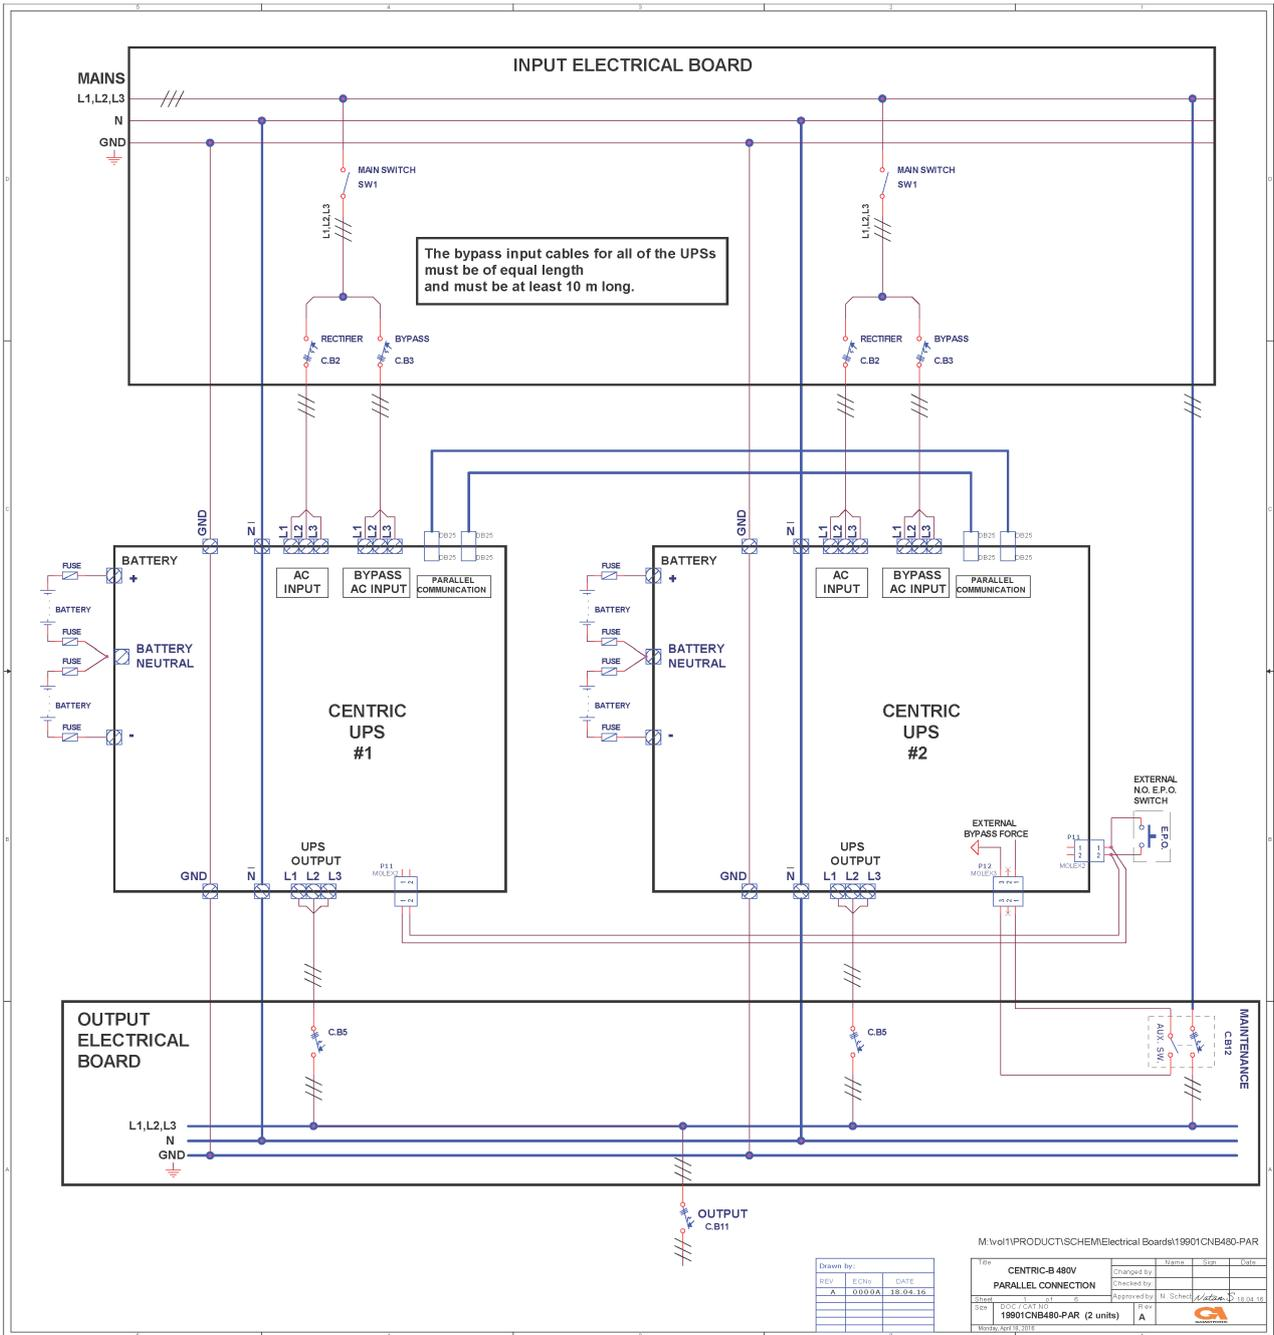
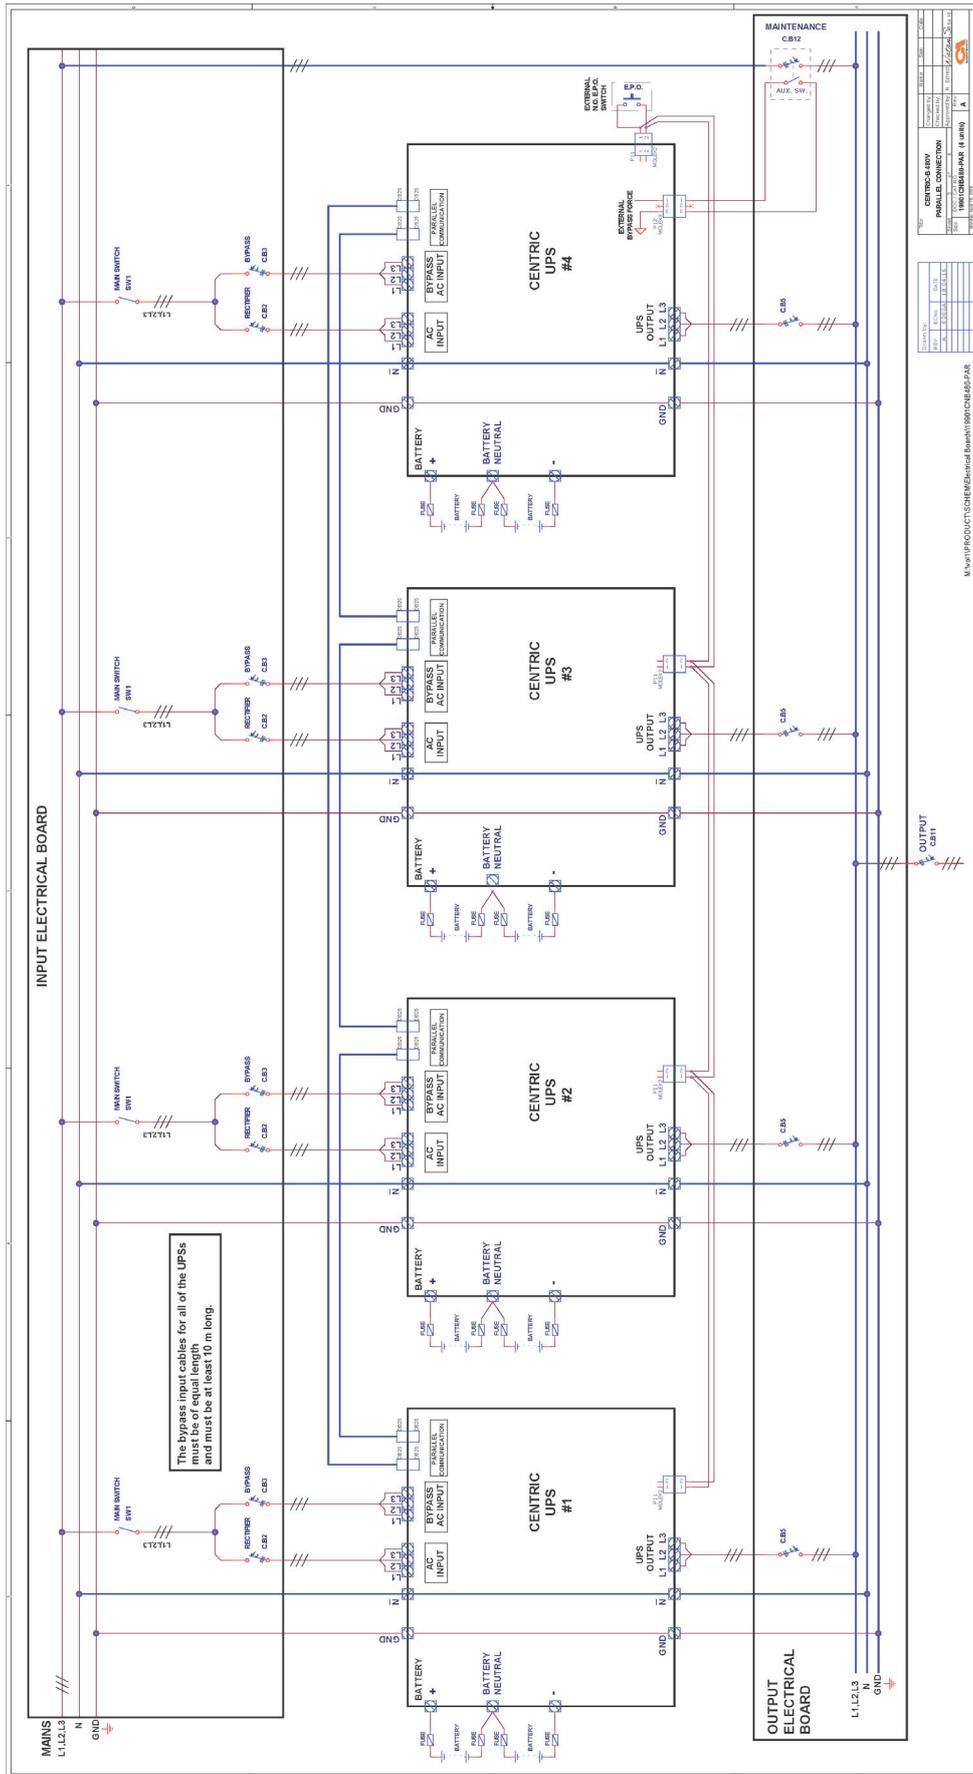
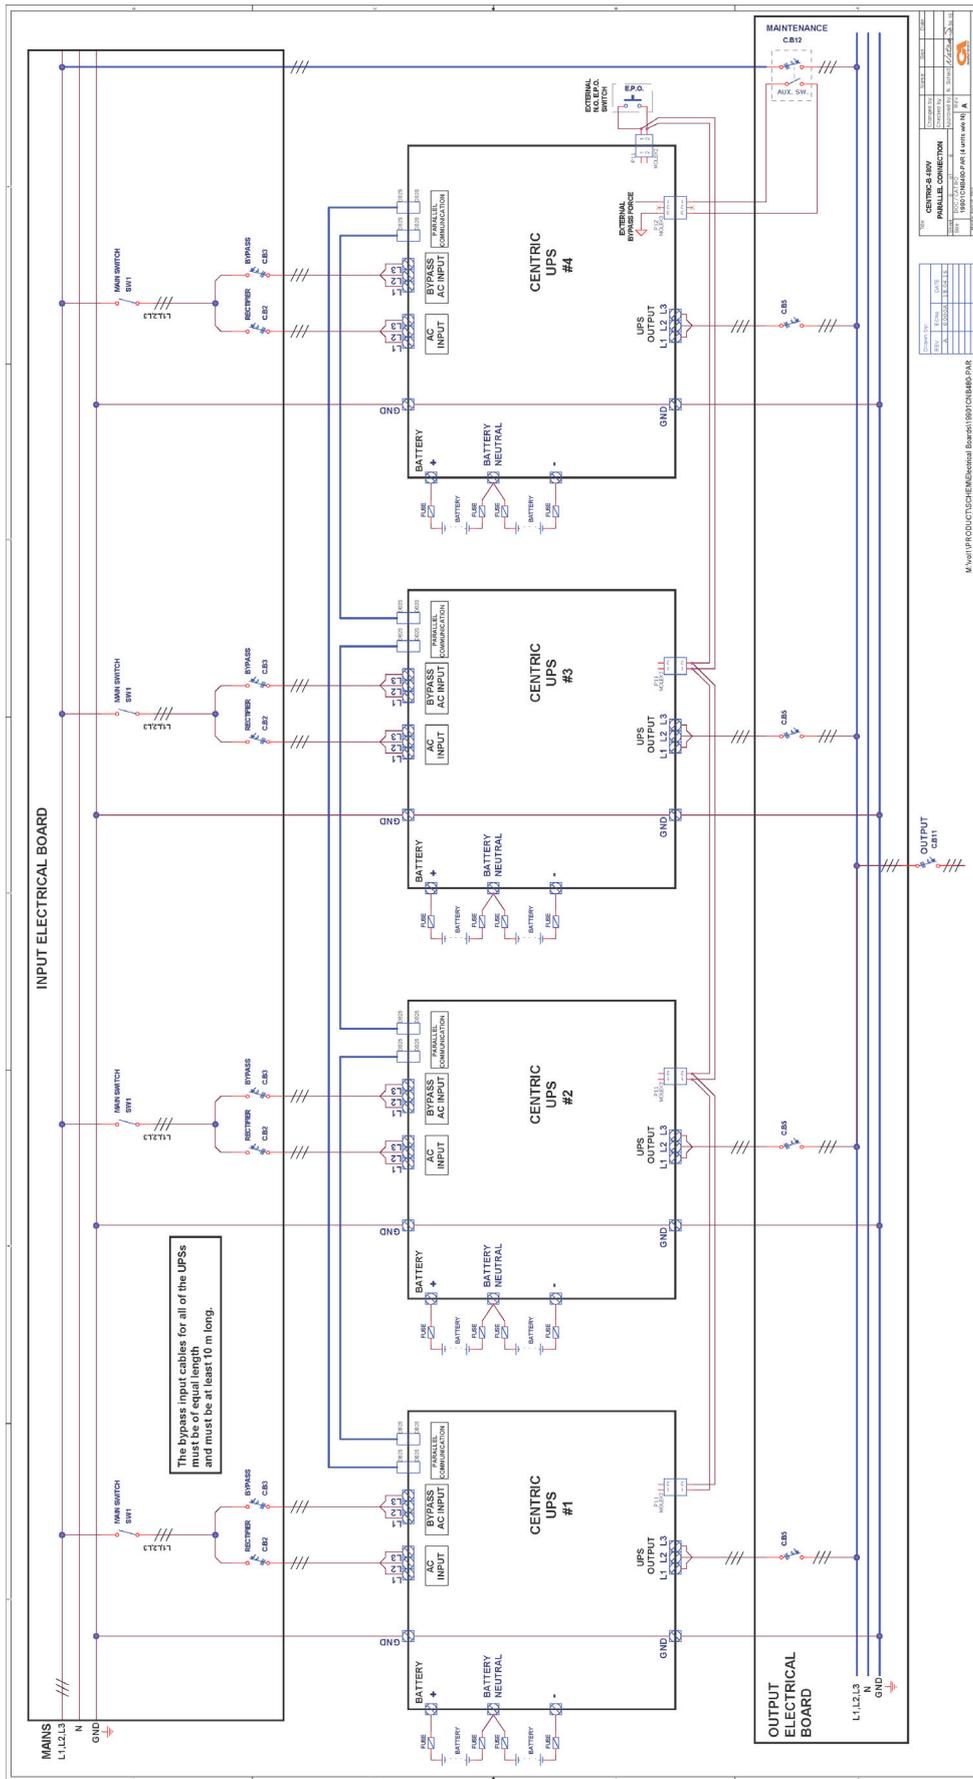

Figure 71: Connection diagram for 2 parallel units (with neutral line)
Figure 73: Connection diagram for 4 parallel Centric units (with neutral line)
Figure 76: Connection diagram for 4 parallel Centric units (w/o neutral line)
When reading this section, refer also to the appropriate connection diagram: **Figure 71, Figure 72, or Figure 73** (for configurations using neutral line) or **Figure 74, Figure 75, or Figure 76** (for configurations NOT using a Neutral line), depending on the number of UPSs to be connected in parallel.
4. **Verify that each UPS's output circuit breaker is in the OFF position** (CB5 in the connection diagrams - Figure 71, Figure 72, Figure 73).
13. Move the output circuit breaker of each UPS to the ON position. (CB5 in the connection diagrams - Figure 71, Figure 72, Figure 73).